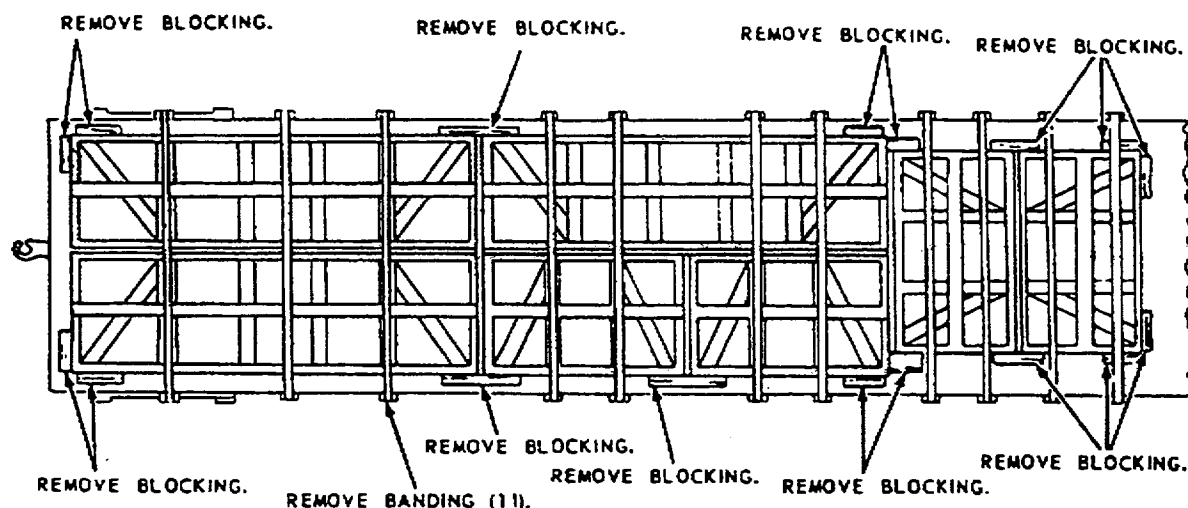

Figure 4-4. Blocking and Tie-Downs
- (1) The crated panels and components of the prefabricated refrigerators may be shipped either by tractor-trailer or rail. The operator and organizational maintenance personnel will remove all tie-down cables, strapping, blocking, and the like, which secure the crated or skid-mounted components to the bed of the carrier. Remove all tie-downs and blocking (fig. 4-4).
- (2) Use a suitable lifting device of sufficient capacity, and remove the crated or skid-mounted components from the bed of the carrier.
- (3) Remove banding, crating, and blocking, being extremely careful not to damage the panels. If skidmounted, cut the strapping and remove cushioning and spacers. Unpack separately packed component from the container. Remove tape from drains, switches, and power receptacles.